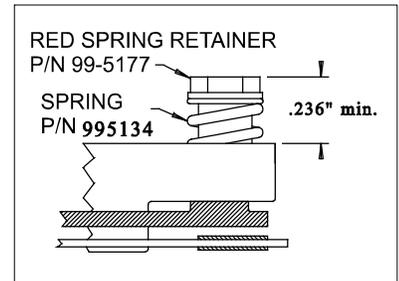

Fig. 4 Tech Specification Of Retainer Height
2. Apply anti-seize or grease to the Dowel Pins (item 15). Slide Dowel Pins into the Levers (item 16). Groups of 3.
3. Insert Pressure Plate (item 11) into the Drive Hub (item 12).
4. Place each Spring (item 13) over a corresponding Pressure Plate Stud. Next, screw the Red Retainer (item 14) onto each Stud until the desired height of .246" is obtained. (See Fig. 4)
5. Lay the Friction Disc (item 10) onto the flat side of the Pressure Plate.
6. Place the Fixed Plate (item 9) over the Drive Hub and align the 3 holes in the Fixed Plate with the Drive Hub Holes.
7. Apply anti-seize to Screws (item 8) and insert into the bolt holes in the Hub (item 12). Tighten Screws to 50 in. lbs. Note: These Screws should not be tightened past 50 in. lbs. or they will be difficult to remove.